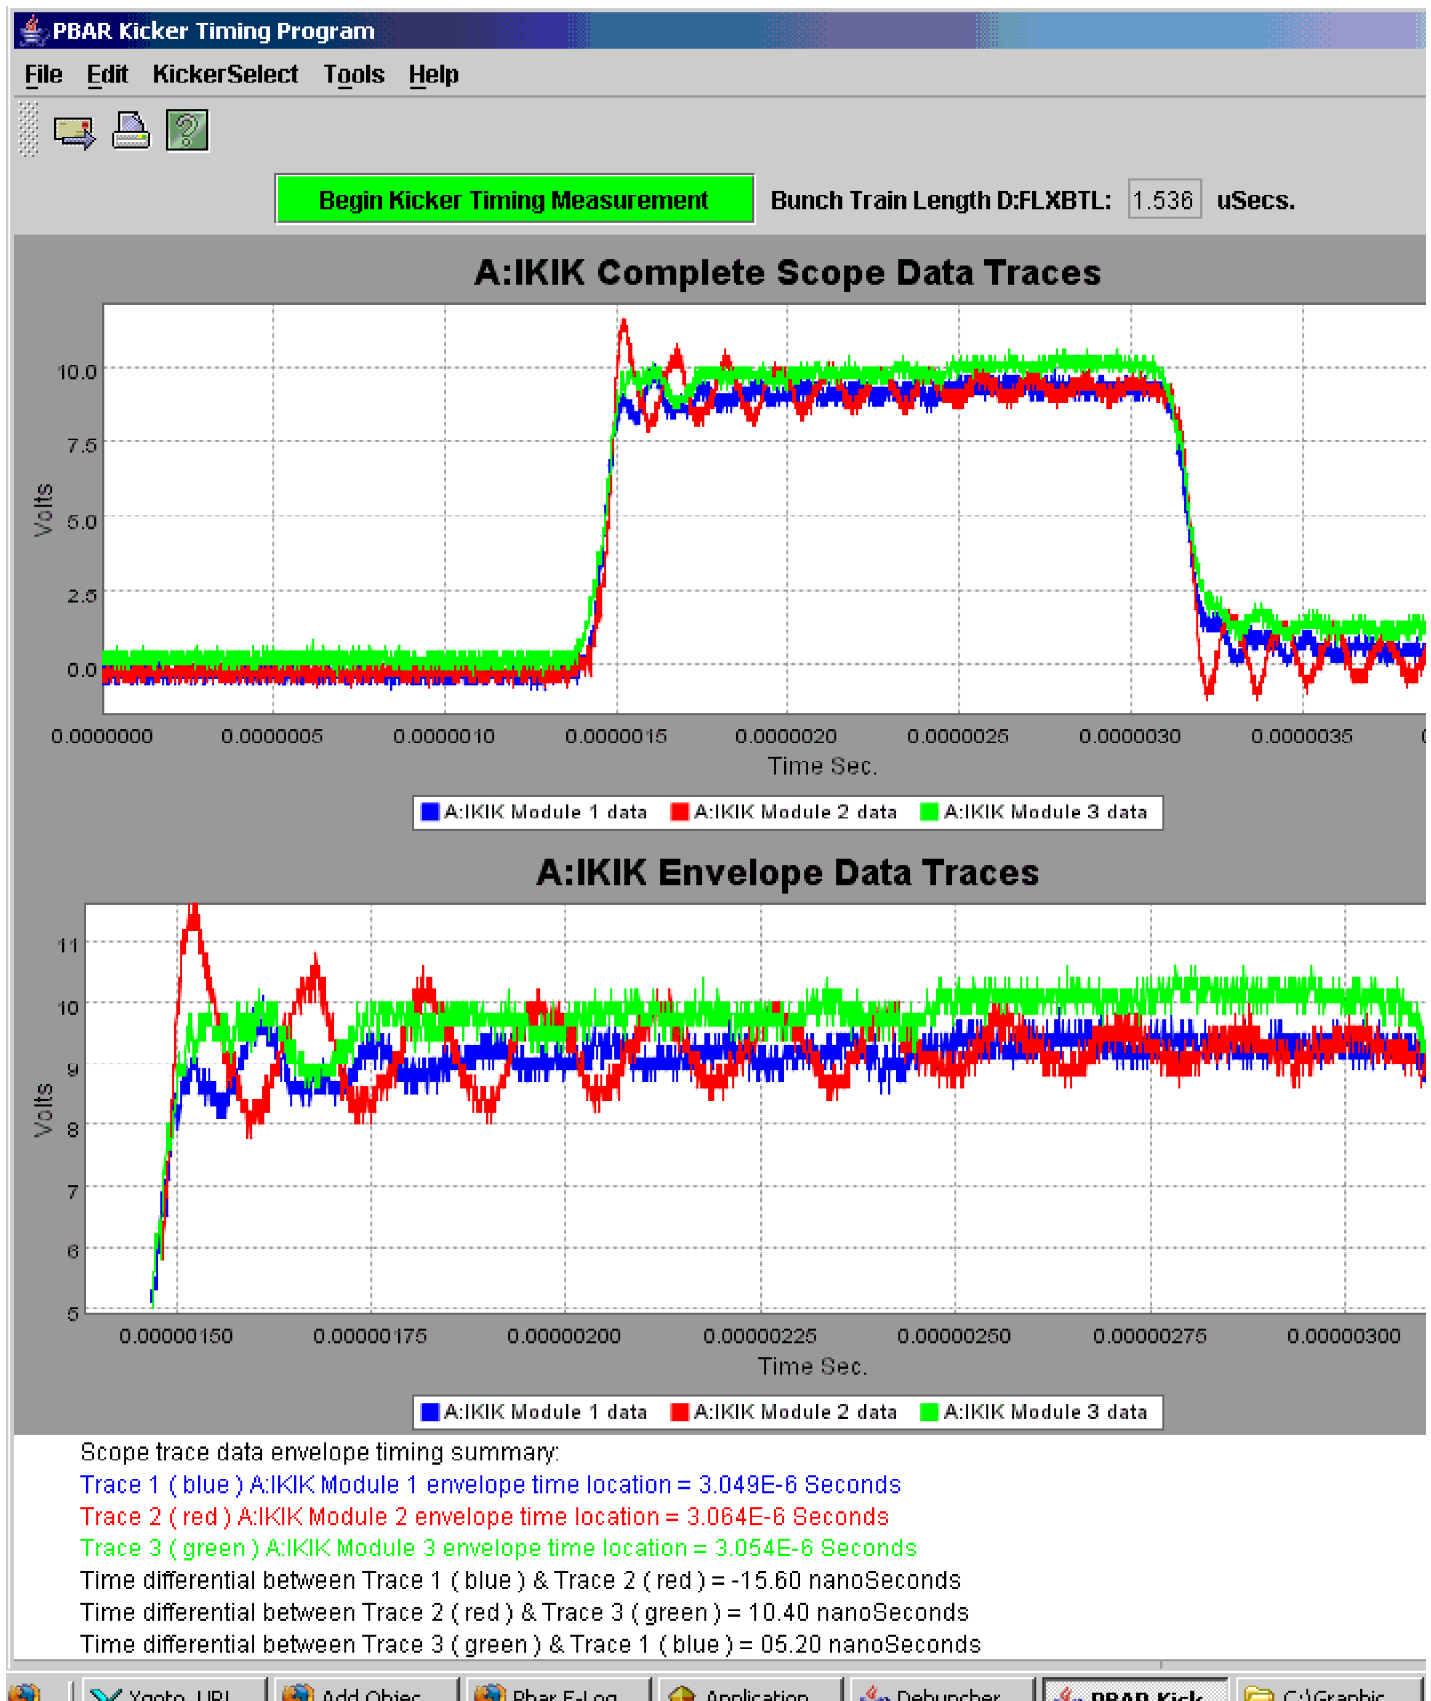

Figure 35:
15.  Examine the Pbar Kicker Timing application (see Figure 35) to see if the kicker trace alignment is converging. Click on the green box that is labeled "Begin Kicker Timing Measurement."